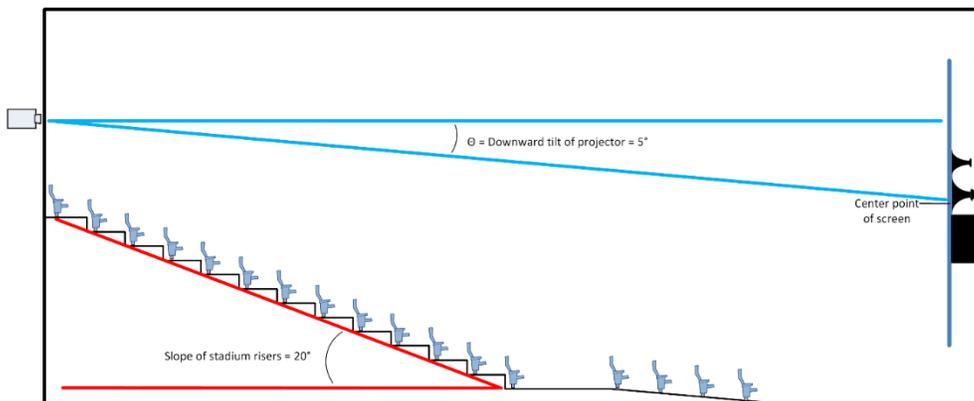

Figure 2 - Optimal riser slopes are generally between 15 and 20 degrees maximum.
- 1.9. Avoid excessively steep-raked stadium riser configuration, since this may cause an excessive projection down-angle, potentially increasing in image distortion (Figures 2 and 3).